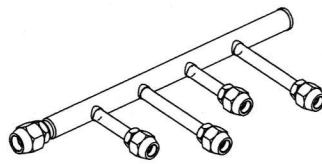

Fig.3
- The DXFQT4-02 structure is displayed in Fig.3.